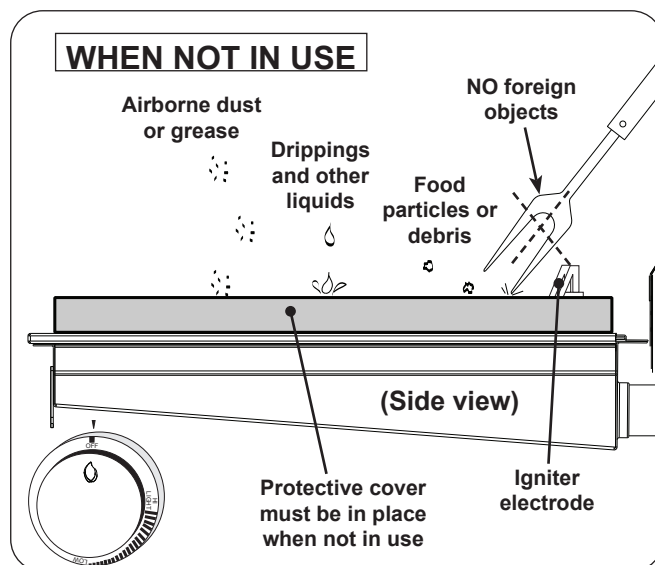

Fig. 5-2 Infrared burner - WHEN NOT IN USE
- When not in use, **always** cover the infrared burner with the stainless-steel cover. This protects the burner from drippings (from other cooking), water, airborne particles, and foreign objects (Fig. 5-2).
- Do not strike or scrape the ceramic portion of the burner as it may chip, crack, or break (Fig. 5-2).